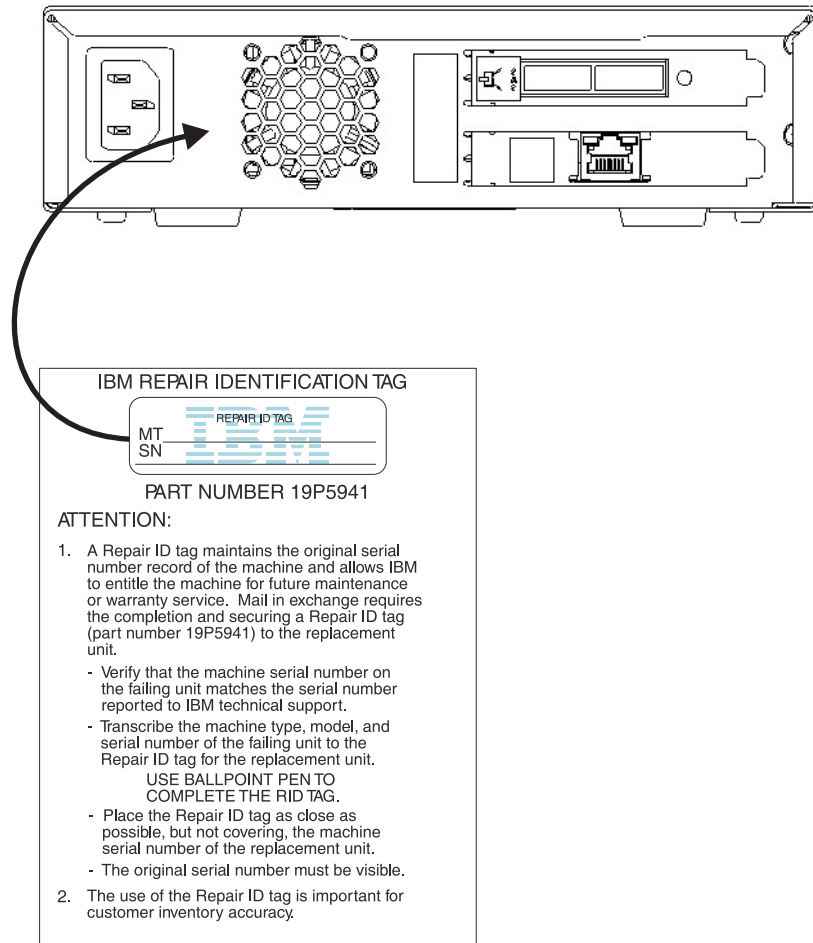

Figure 14. RID tag on rear panel
2. Locate the repair identification (RID) tag that is included with the replacement unit. See Figure 14 on page 53.